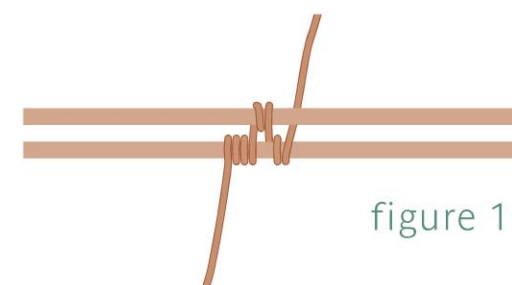

figure 15
- 5 Bring the weaving wire underneath and over Frame Wire 1; coil twice (Figure 15).